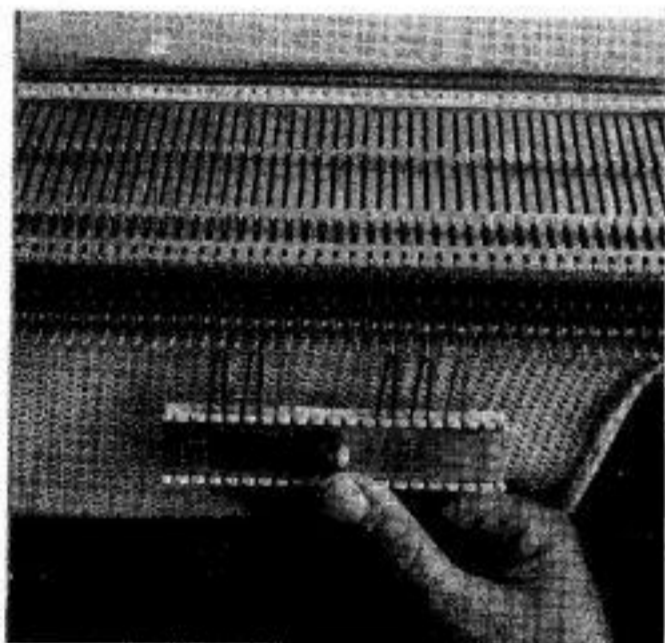
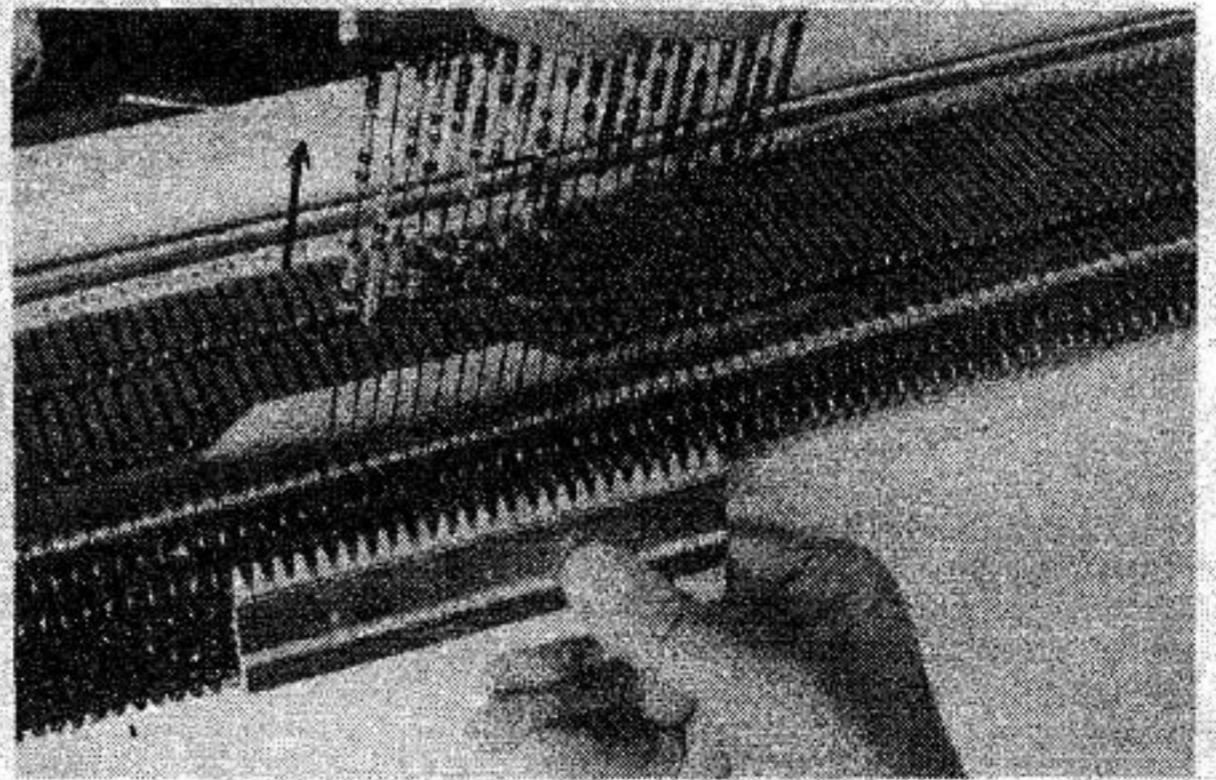

Fig. 67
Fig. 85
- (c) Hook each loop onto every alternate needle hook. (Fig. 67)
(see Fig. 85)
Holding the beads firmly in this position with the comb, raise the Vertical Pattern Knitter and when it is above the needles move to the right so that when it is lowered the strands will each enter into the hook of the adjacent needle on the **right**. Do not forget to keep the strands reasonably taut whilst raising and lowering the Vertical Pattern Knitter. (see Figs. 85, 86 & 87) When the operation is completed the beads should be on the left of the needle hooks whilst the strands of cotton emerge from the right of the hooks as shown in Fig. 67. Remove the sinker stopper.